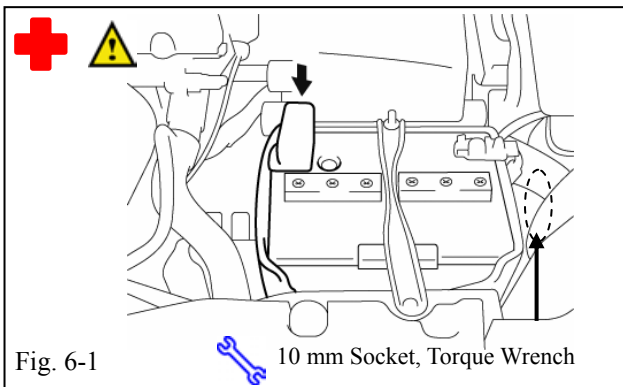

Fig. 6-1
- (a) Reconnect the vehicle's negative battery cable. (Fig. 6-1)
- (1) Position the negative terminal to the battery as shown (original factory position).
- (2) Tighten the nut to 4.1 N•m (36 lbf•in).
- (3) Do not touch the positive terminal with any tool when installing the cable.